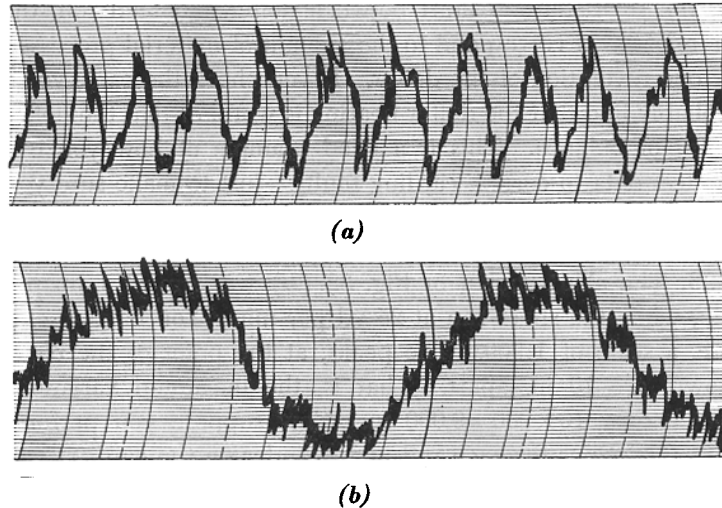

FIG. 33. CHARTS OF IRREGULAR SLIVERS
92. Two characteristic test charts produced by the Uster tester are shown in Fig. 33. The chart shown at (a) is on a scale of 1:72. The sliver was run at 68 yd per min, while